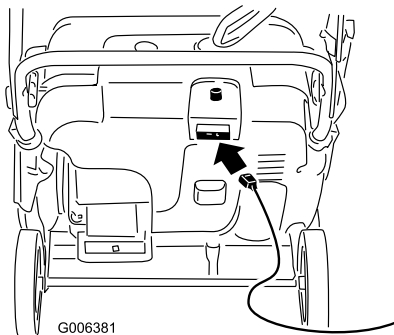
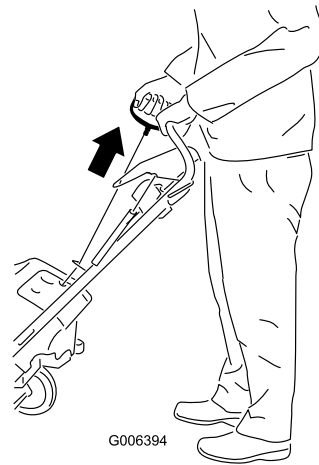

Figure 17
Figure 18
4. Connect an extension cord to a power source and the machine, and push the electric-start button (model 38589 only) (Figure 17), or pull the recoil start handle (Figure 18).